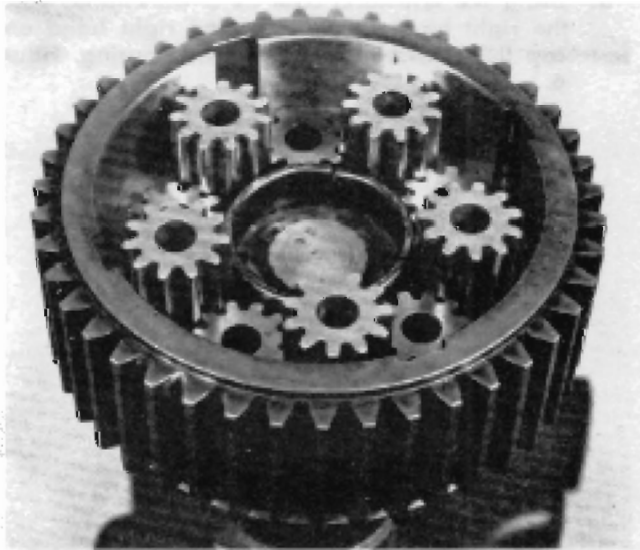

FIGURE 8
7. Position the differential ring gear over the body. After careful alignment press the gear down over the body until it seats on the end cap. Figure 8.